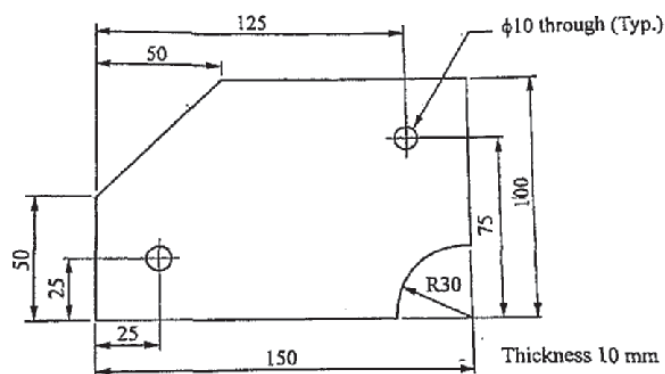

Fig. 3a
- Q3) a)** Write a manual part program for the component shown in fig. 3a. Assume the raw product as cast iron and the machining is to achieve the various dimensions. [12]